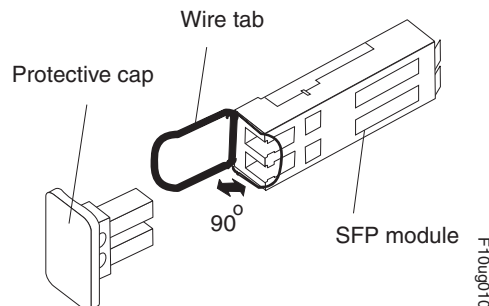

Figure 71. Unlocking the SFP module latch - wire variety
- For SFP modules that contain wire tabs, unlock the SFP module latch by pulling the wire latch outward 90°, as shown in Figure 71.